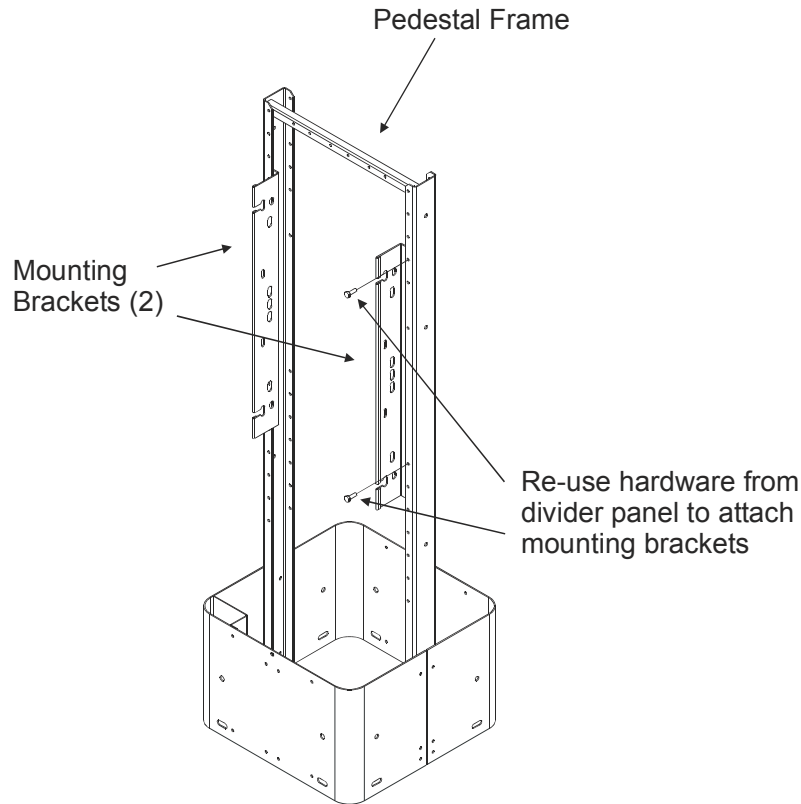

Figure 12. Mounting the Brackets
2. Install the mounting brackets using the hardware from step 1 (Figure 12). Do not tighten the hardware until the Field Shelf has been attached.